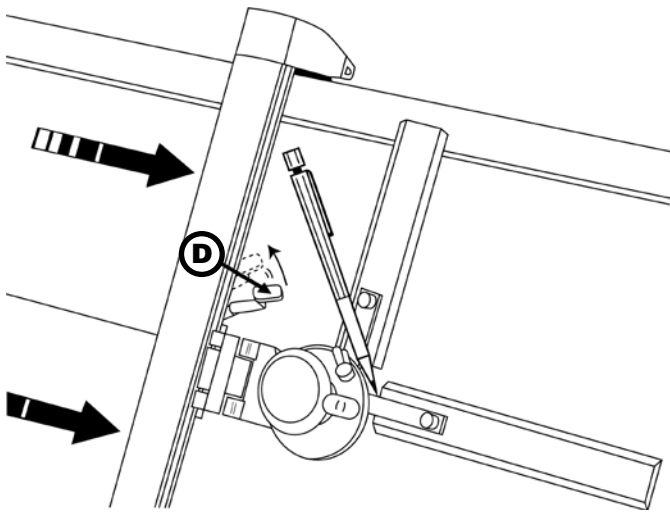

Figure 7a
Lock the vertical sliding block using brake (D). Draw a straight line with a pencil resting on the supporting edge moving the vertical track to the right (see Figure 7a).